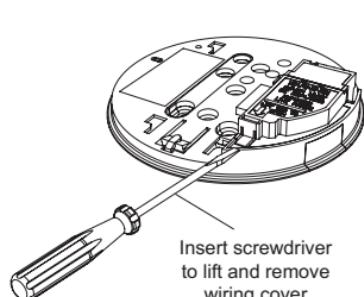

Figure 3a
8. Remove the wiring cover on the Alarm mounting plate to view the terminal (see fig 3a).